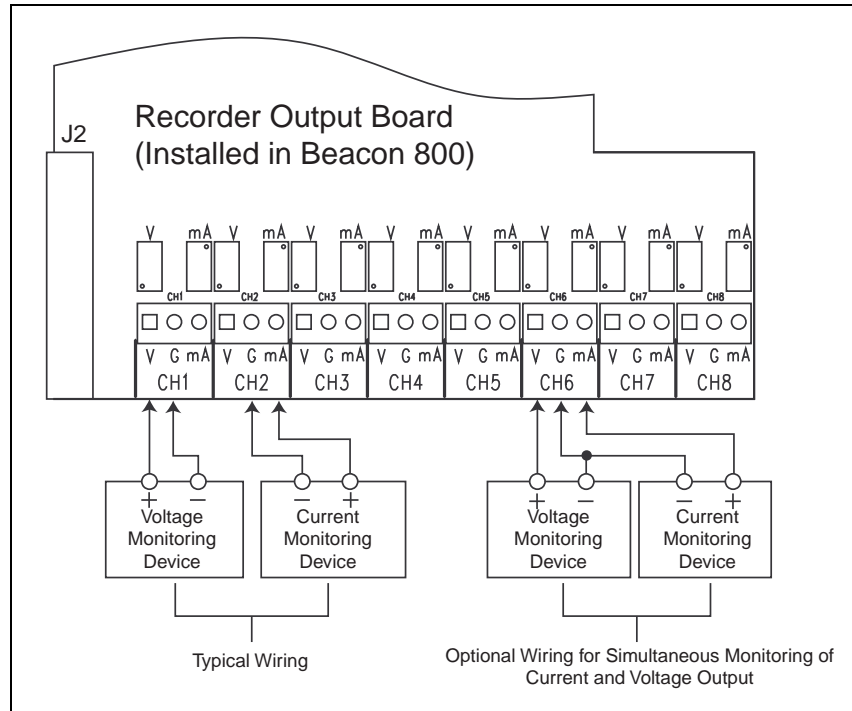

Figure 16: Recorder Output Board Wiring
7. Connect the wires to the heavy duty relay board, a power source, and the device as illustrated in Figure 16.